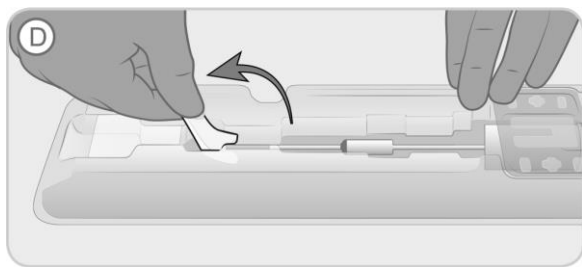

Figure 5. Flip the funnel lever to release device from tray.
D. Flip the funnel lever to a vertical position to release the delivery device from the loading funnel (indicated on the tray with “D”), Figure 5.